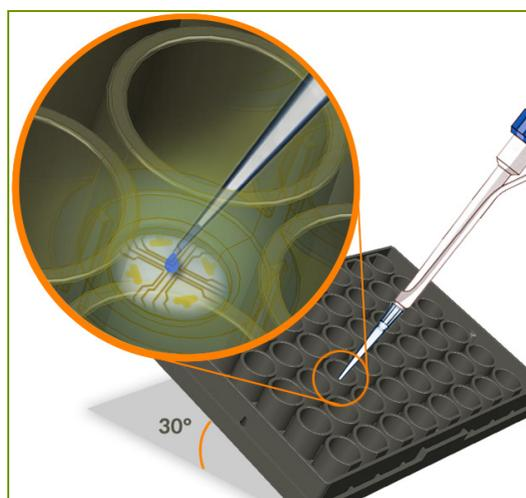

Figure 1: Example Droplet Placement
4. Tilt the 48-well MEA plate pre-coated with PEI solution at a 30 degree angle so that the bottom of all wells are visible (Figure 1). Pipette a 10 µl/well droplet of 80 µg/ml laminin pre-dot solution directly over the recording electrode area of each well. Incubate the 48-well MEA plate at 37°C for 30 minutes.
1. Thoroughly mix the cell suspension by gently inverting the tube 2 - 3 times. Tilt the 48-well MEA plate at a 30 degree angle so that the bottom of all wells are visible. Immediately dispense a 10 µl/well droplet of the cell suspension directly into the 10 µl/well droplet of laminin pre-dot solution, resulting in a final droplet size of 20 µl/well (Figure 1).